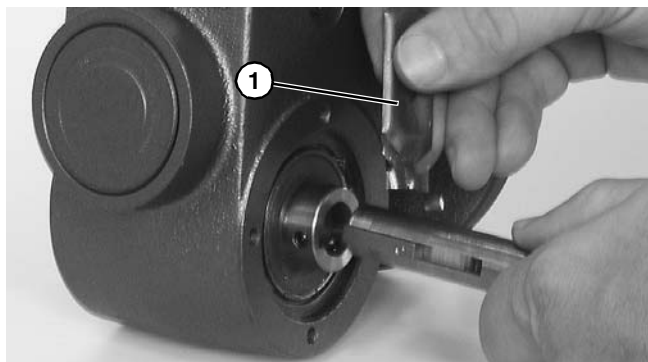

Figure 26
2. Apply anti-seize (Figure 26, item 1) to shaft.